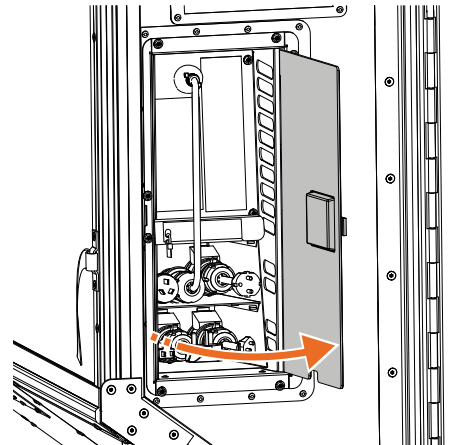

Fig. 24
1. Open the cover of the charging unit (**Fig. 24**).